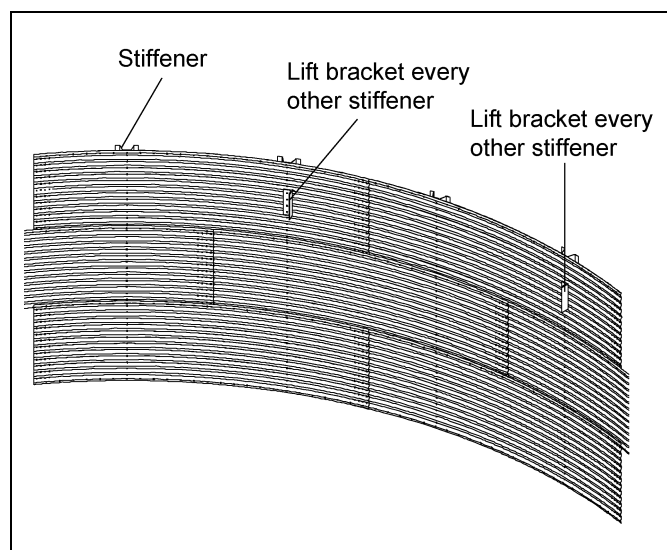
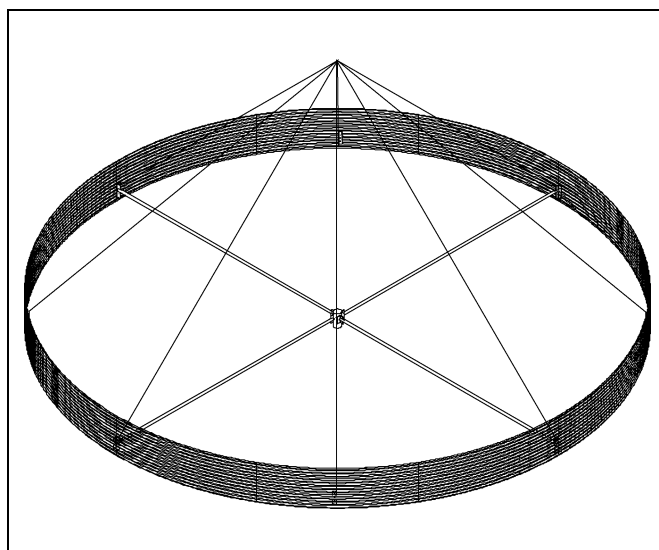

Figure 16A
Figure 16B
- a. Lifting brackets should be attached to the stiffeners. At least one bracket per sidewall sheet should be used. These would typically be attached in the third ring from the bottom of the tank. Brackets should attach to a minimum of four (4) bolts through the stiffener. Attach cables to the lift brackets and to the crane hook, which has been lowered through the center ring opening. Cables should be sized to handle the entire weight of the bin. Make all lift cables of equal length before the bin is lifted. *(See Figure 16A and Figure 16B.)*